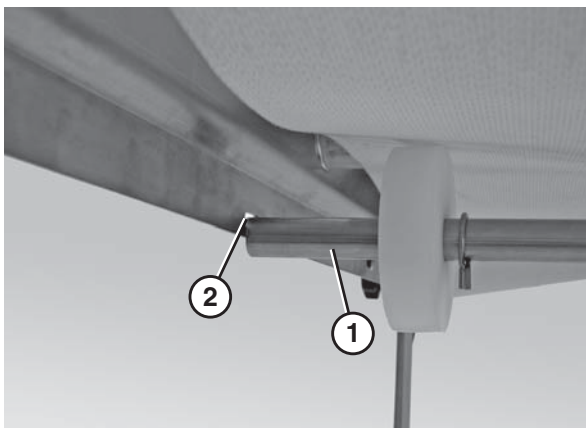

Figure 6
2. Push up on the return shaft (Figure 6, item 1) and slide the notched end of the shaft through the small slot (Figure 6, item 2) on the opposite side of the frame.